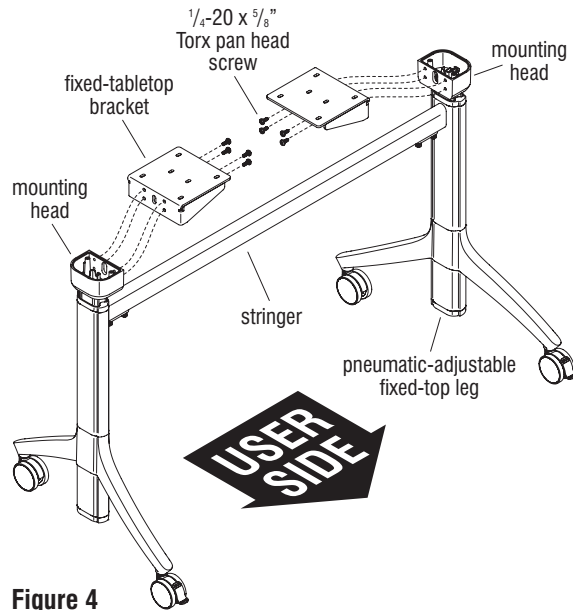

Figure 4
- Lower a fixed-tabletop bracket into position next to a mounting head as illustrated. Align the four mounting holes on the fixed-tabletop bracket with the four side mounting head holes and secure using 1/4-20 x 5/8" Torx pan head screws. Repeat this step to install the second fixed-tabletop bracket to the opposite mounting head (Figure 4 & Detail E).